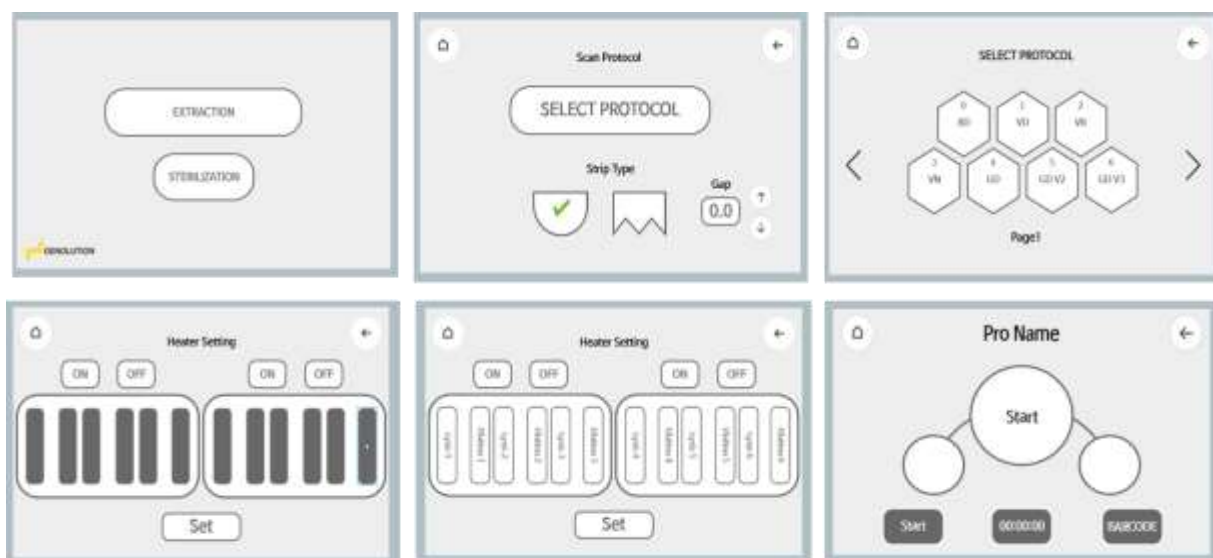

Figure 9: Protocol setting screens
7. Select Extraction → Select Round Strip Type → Select Protocol → Select BD → Touch the On / OFF button to select the heating region for the left and right plate loader → Press the Set button to complete the setting → START (Figure 9)